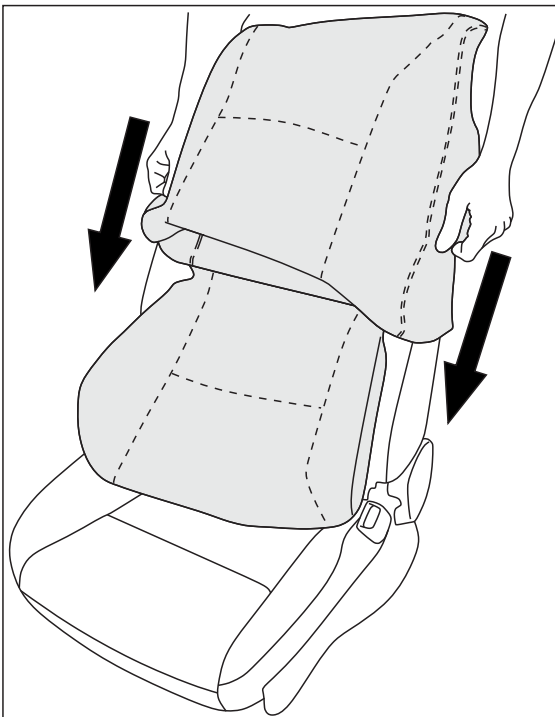

Fig.3
3. Slide backrest cover evenly from both sides over seat backrest (Fig.3).